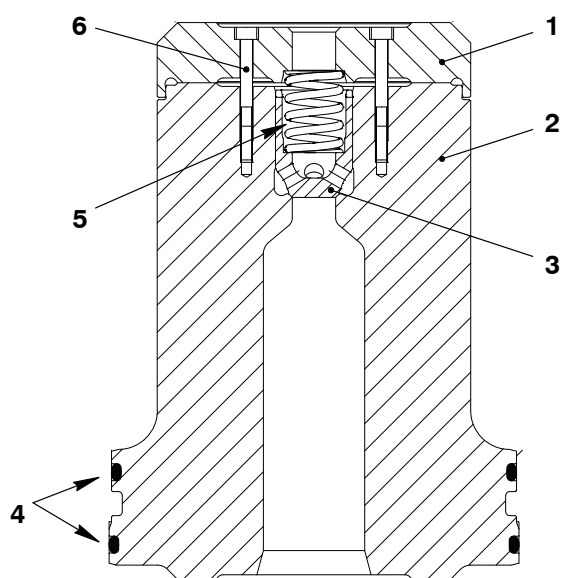

Fig. 13
- 1) Make sure that the sealing surfaces of the valve block (2, Fig. 13) are clean and have no damage.
- 2) Put oil on the new O-rings (4).
- 3) Put the new O-rings (4) on the valve block (2).
- 4) Put the spring (5) in position in the valve body (3).
- 5) Attach the intermediate disc (1) to the valve body (2) with the two bolts (6).
- 6) Torque the two bolts (6) to 4.0 Nm.